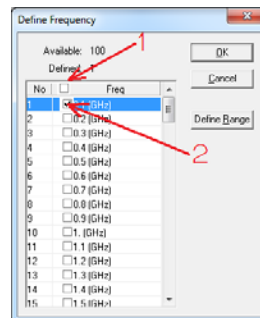

Fig. 31 Select Frequency Point for SPICE Model Extraction
5. In the *Define Frequency* dialog, uncheck the the main check box to de-select all frequency points (see Fig. 31). Check the check box for *No.1: 0.1 GHz* frequency point. We are going to extract the RLC equivalent circuit at 0.1 GHz. Select **OK** to continue.